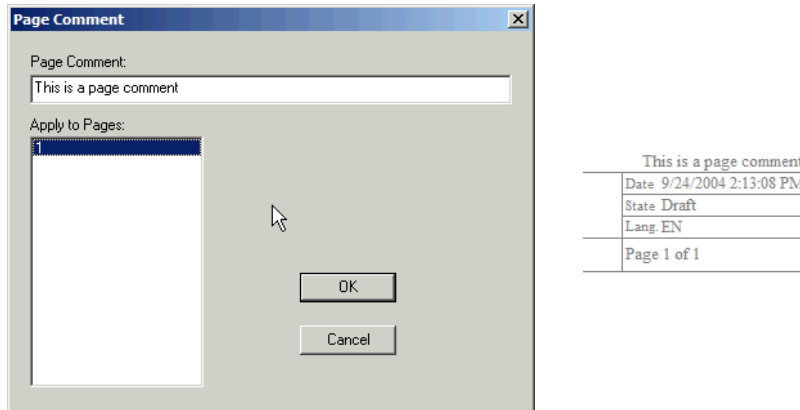

Figure 238. Page Comment Dialog
See Figure 238.
- on the lower-right corner of the page template, see Figure 238.